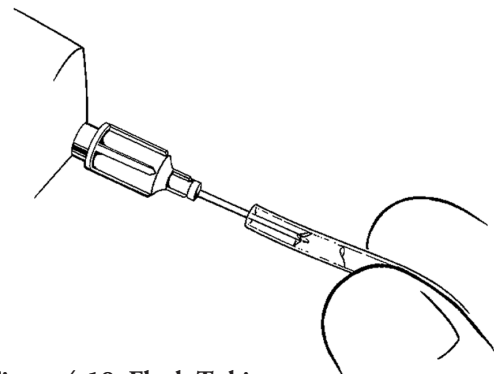

Figure 4-18. Flush Tubing
2. Flush cylinder tubing (**Figure 4-18**).